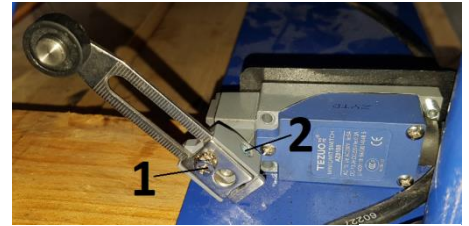

Fig. 8
2. Now loosen the screw (1, fig.8) and fully extend the arm, and secure it again with the screw (1, fig.8).
3. Now it is key to adjust the position of the arm, loosen the allen bolt (2, fig.8) so you are able to adjust the position of the arm with the wheel. The limit switch is triggered when the bottom side of the lower scissor suppresses the arm of the limit switch. The lift should stop at a height of $\pm 40\text{cm}$ (measured from the bottom of the platform to the floor).